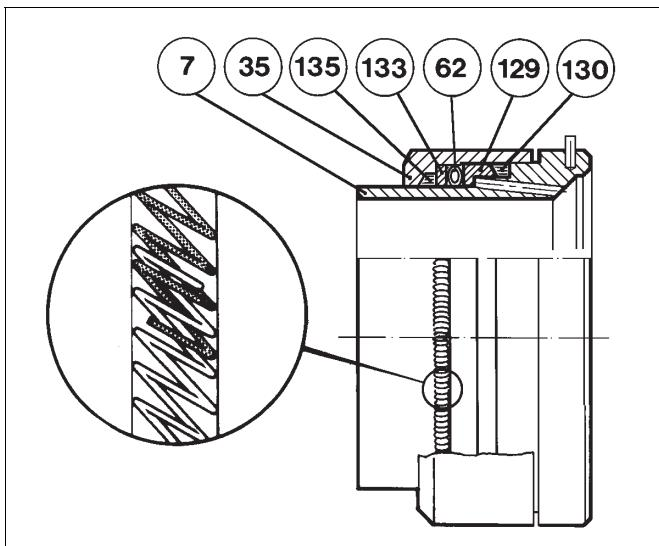

Fig. 19 E1-seat
- Lubricate the O-ring (63) with silicone grease before installation.
- Install the O-ring (63).
- Install the support ring (64) into its groove. Cut the ribbon ends diagonally to make a flexible seam.
Install the back seal (130) and the ring (129). See Fig. 19.
- Install the spring (62) into the seat body (7).
- Install the spring support ring (131).